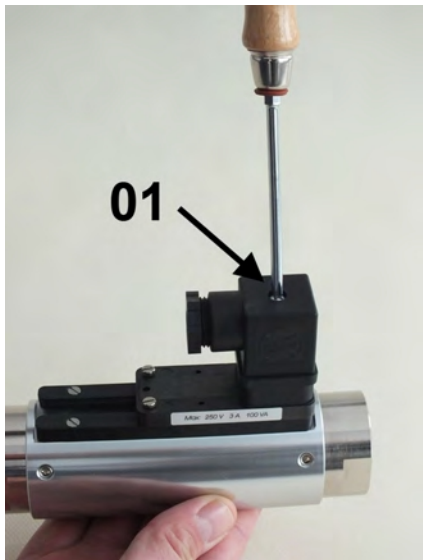

Fig. 20: Detach socket
1. ➤ Release the fixing screw (Fig. 20/1) from the socket.
9. → Plug the socket onto the connection plug and tighten the fixing screw. (Fig. 20/1)